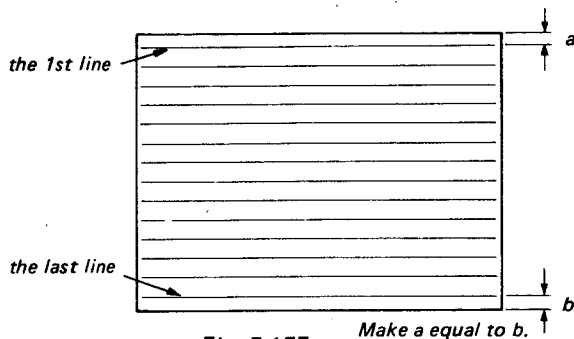

Fig. 5-157.
- (2) Make this monitor receive a crosshatch signal from the signal generator and present only H. lines.
- (3) Set up the UNDERSCAN mode.
- (4) Make this monitor show 14H. lines and adjust the VERTICAL POSITION of the signal generator so that the space between the effective face edge of the picture tube and the first line is equal to the one between the effective face and the last line. (See Fig. 5-157.)